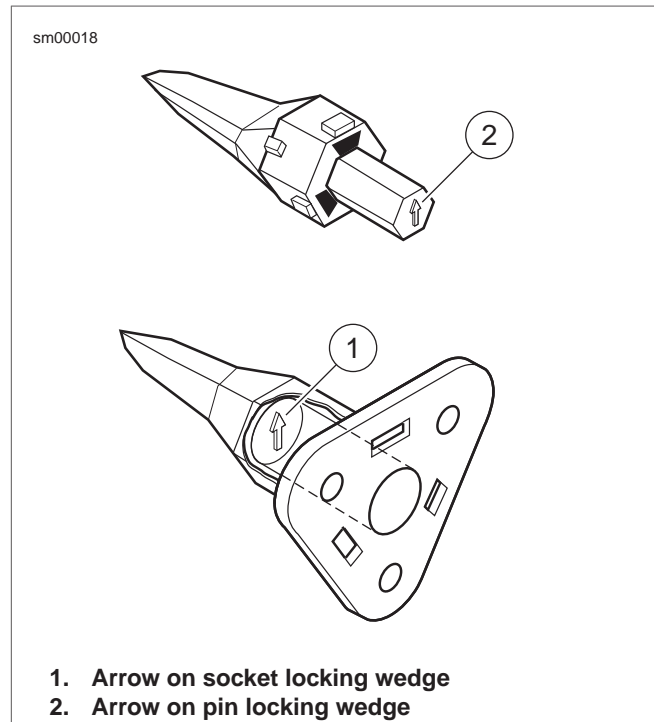

Figure A-13. Deutsch Connector: 3-Place Locking Wedges
- See Figure A-13. While rectangular wedges do not require a special orientation, the conical secondary locking wedge of the 3-place connector must be installed with the arrow (1) pointing toward the external latch.
- See Figure A-13. While rectangular wedges do not require a special orientation, the conical secondary locking wedge of the 3-place connector must be installed with the arrow (2) pointing toward the external latch.